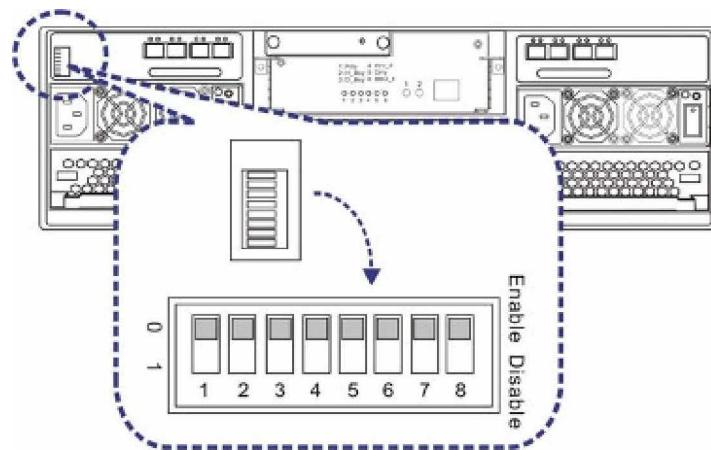

Figure 4-1: DIP Switches on the Subsystem Rear Panel
The DIP switch on the enclosure configuration card is located on the upper left corner of the enclosure rear panel. (See *Figure 4-1*) The first and the last three (3) switches marked from 1 to 3 and 6 to 8 are reserved. The remaining two (2) switches marked 4 and 5 can adjust the Fibre Channel data speeds and enable/disable the bypass functionality. (See *Table 4-1*)